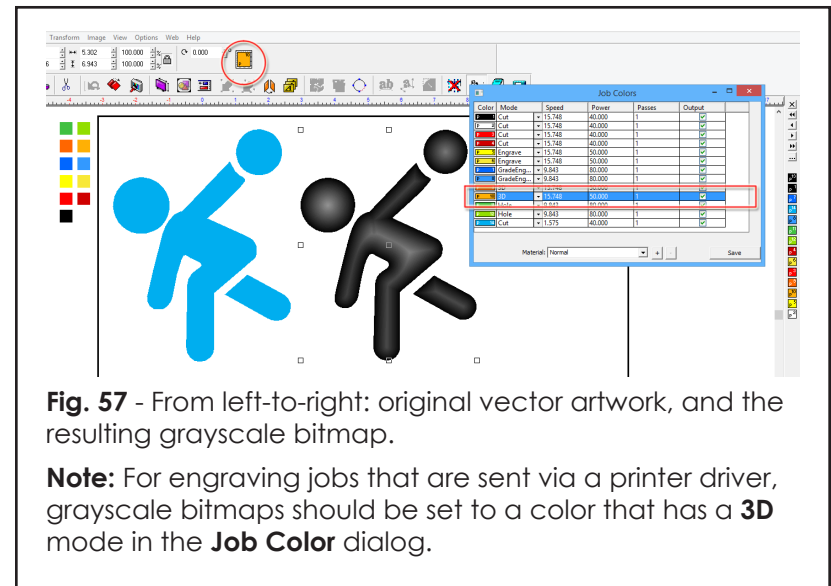

Fig. 57 - From left-to-right: original vector artwork, and the resulting grayscale bitmap.
9. Click **Close** to finish adjusting the contour fill settings (Fig. 57).